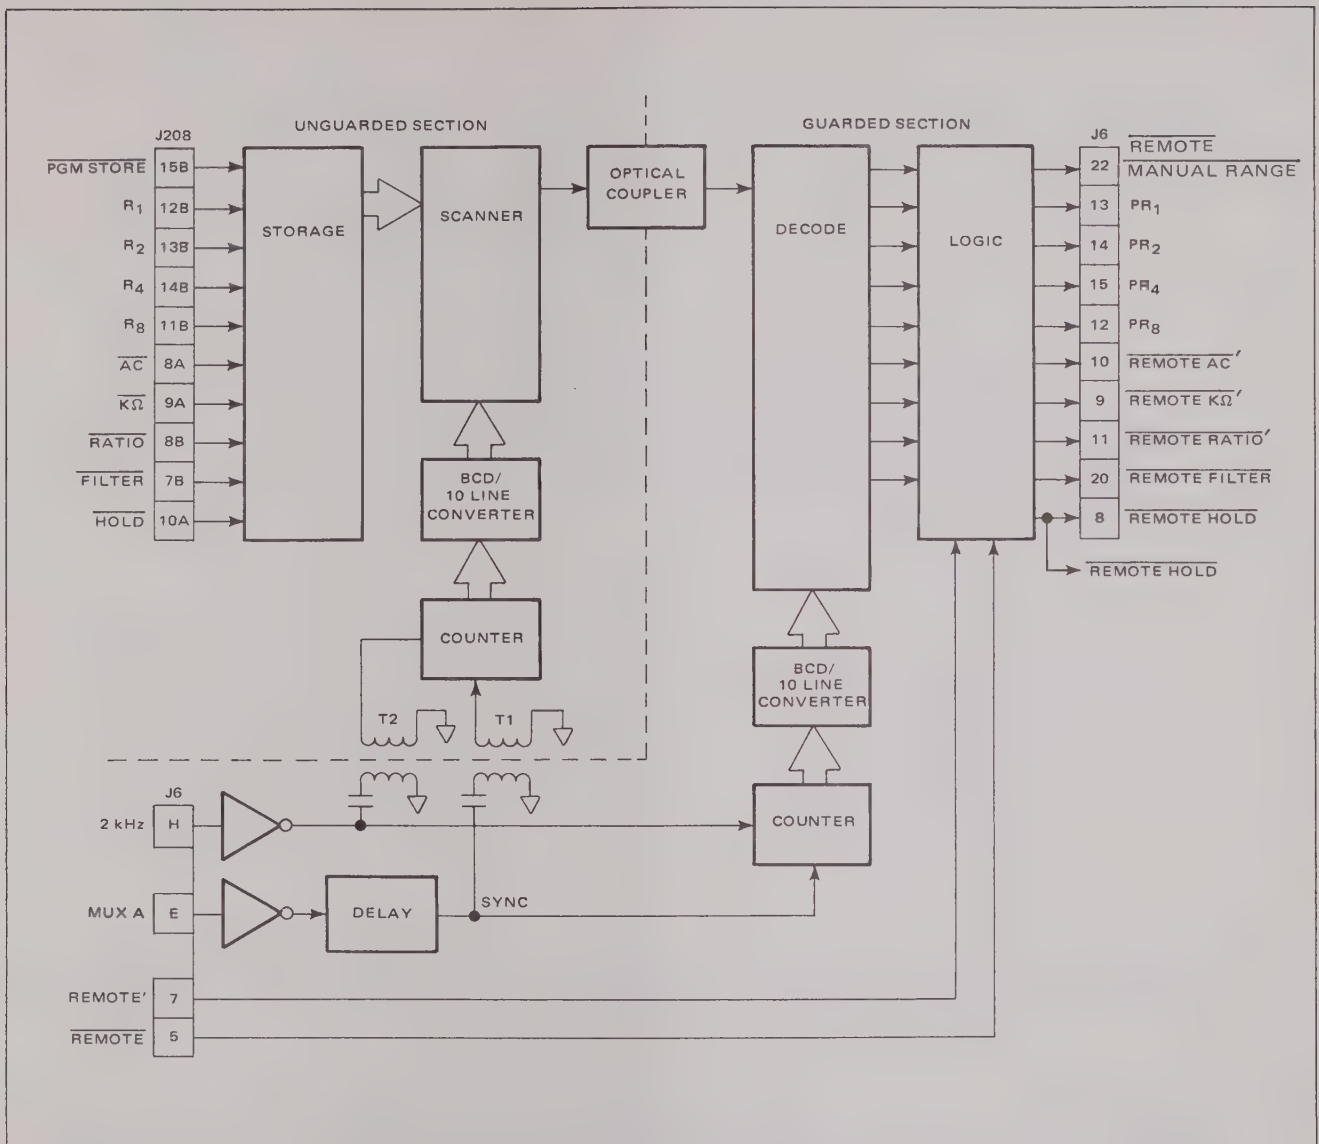

Figure 4.12 - Remote Programming
4.64 The programming circuitry also uses the multiplexing technique. As shown in the block diagram of figure 4.12, the programming inputs are stored by latches with the latches being strobed by the PROGRAM STORE line (if PROGRAM STORE is left high, the storage is bypassed). The data from storage is scanned at a 2 kHz rate and the data in serial form is fed to the guarded section of the instrument by a single optical coupler. The data is re-converted to parallel data and decoded for use by the instrument. The programming data is accepted by the instrument circuitry when the Remote function is selected.